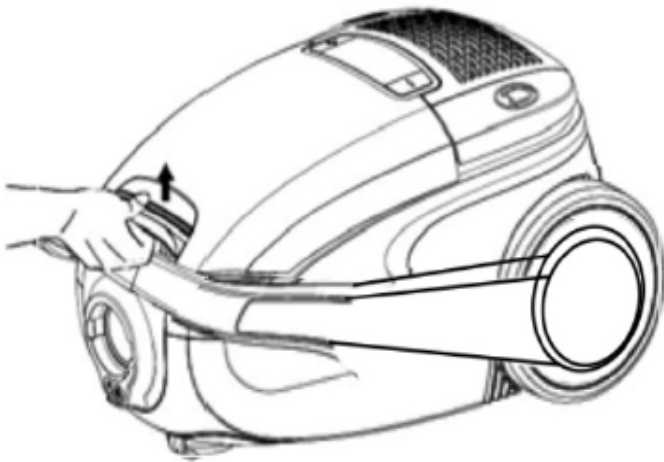

Fig.18
1. Open the dust compartment cover by unlatching and subsequently raising it (Fig. 18).